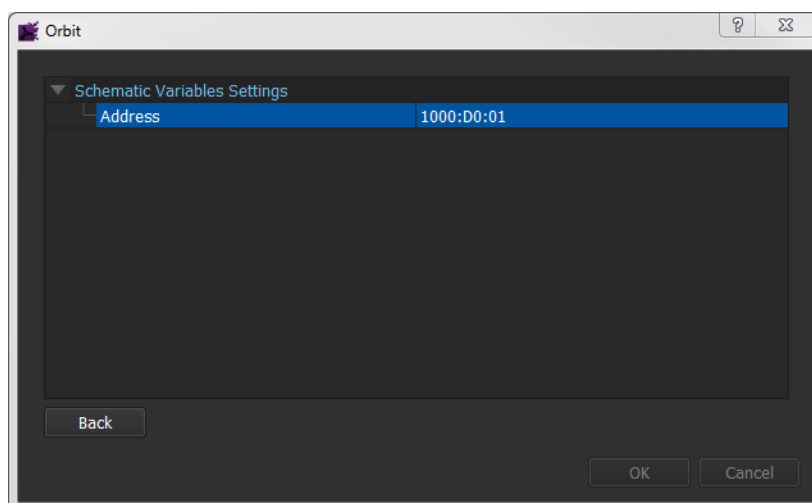

Fig. 9-12: Setting Screen Variables
- 5 Select the 'Priority' cell in the second line item, and click on the **Variables** button. The screen variables setting dialog is shown, see Figure 9-12.